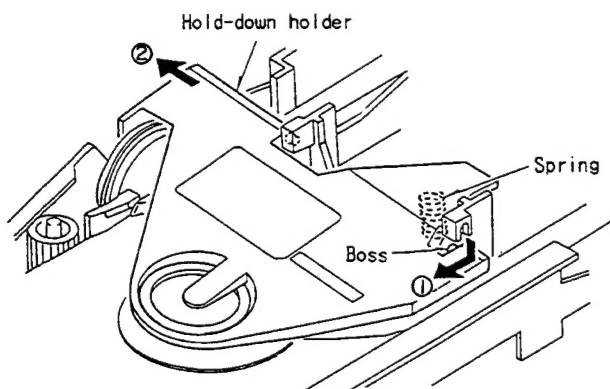

Fig. 1
- 1) Release the boss while pressing the holder in the direction of arrow (1) to slide it.
- 2) Remove the holder in the direction of arrow (2). (See Fig. 1)